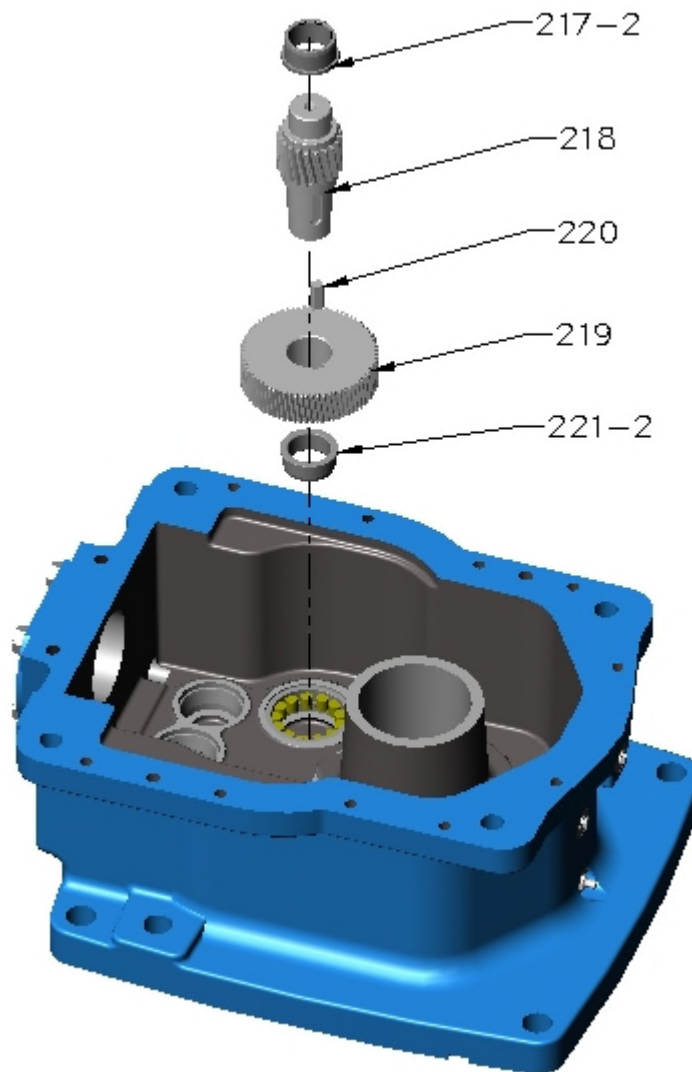

Figure 10 – 2nd Intermediate Shaft
- N. Remove 2nd intermediate shaft assembly (refer Figure 10).
- O. 2nd intermediate shaft disassembly (refer Figure 10)):